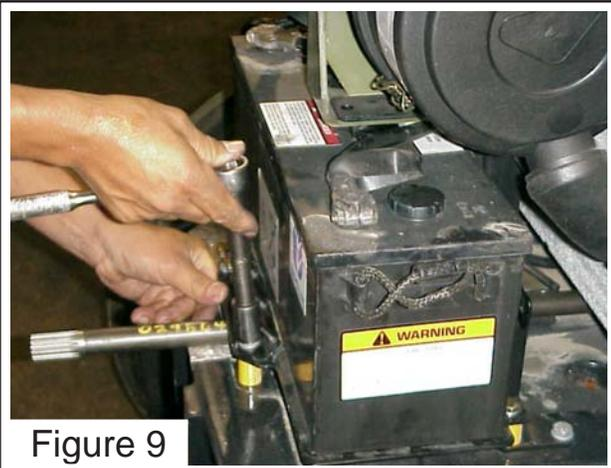
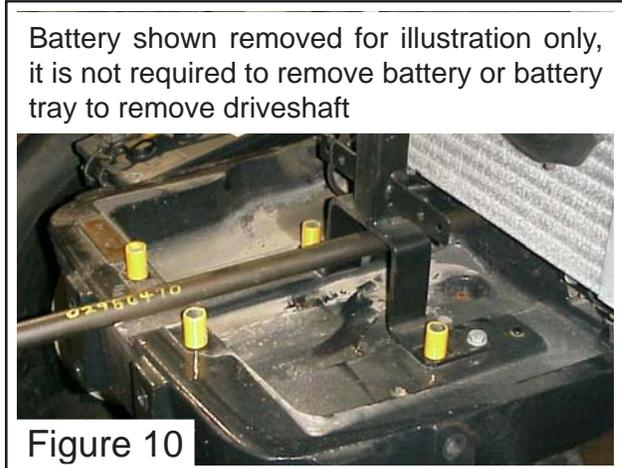

Figure 9
Figure 10
6. The pump mount weldment removed only the driveshaft will remain showing if it was left in bolster. Below figure 9 & 10 show the pump mount plate removed. Figure 9 shows where
1. Driveshaft runs under batter through the tractors front bolster. Figure 10 shows with the battery for this model tractor removed, this is for illustration only. The battery or battery tray will not have to be removed to remove the driveshaft. Driveshaft will be sticking out under battery tray as shown in figure 9.